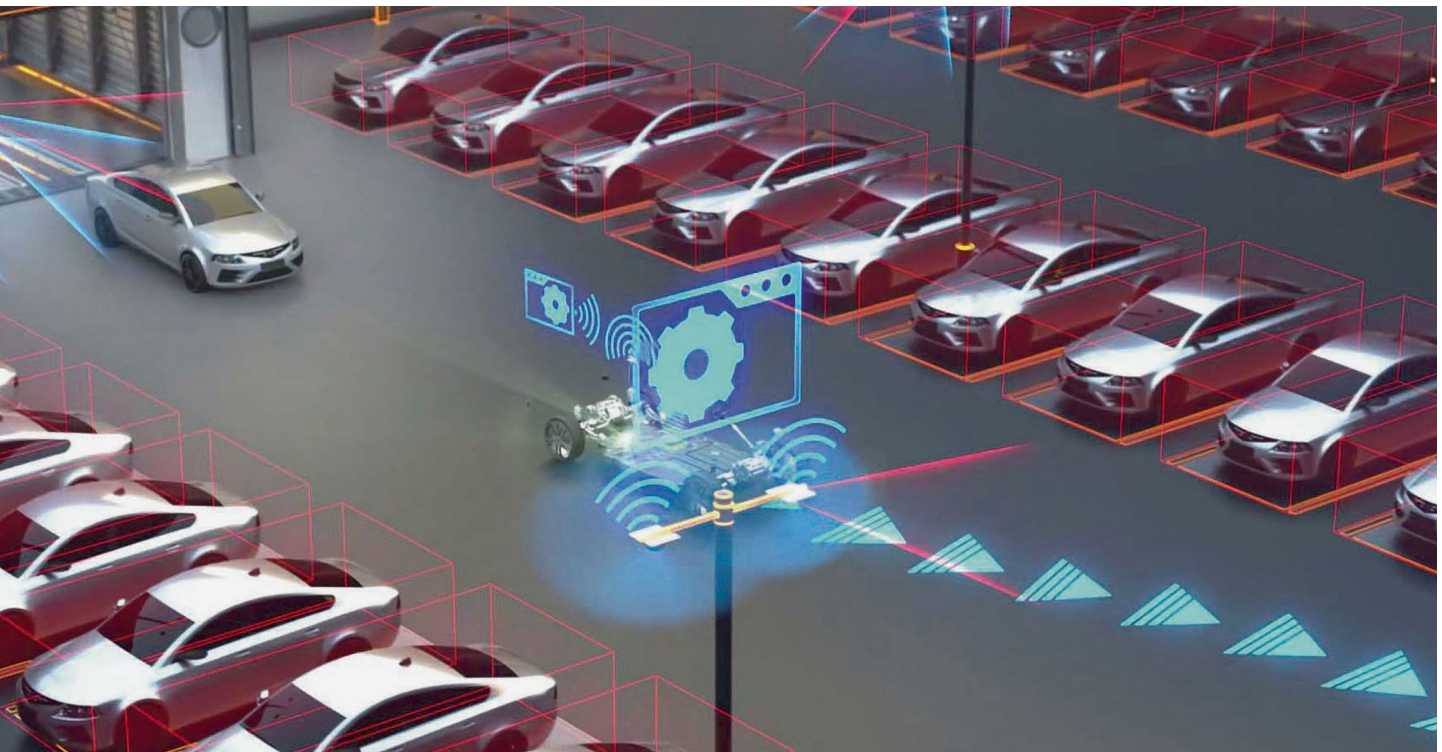

FIGURE 1 An AVP2-ready car receives path information from the infrastructure (© Continental)
stalled in the parking garage, **FIGURE 1**. Sensors in the building detect the car and perceive objects (Sense). Algorithms based on artificial intelligence (AI) interpret the sensor data – along with other tasks and technologies object detection and classification is performed – to create an environment